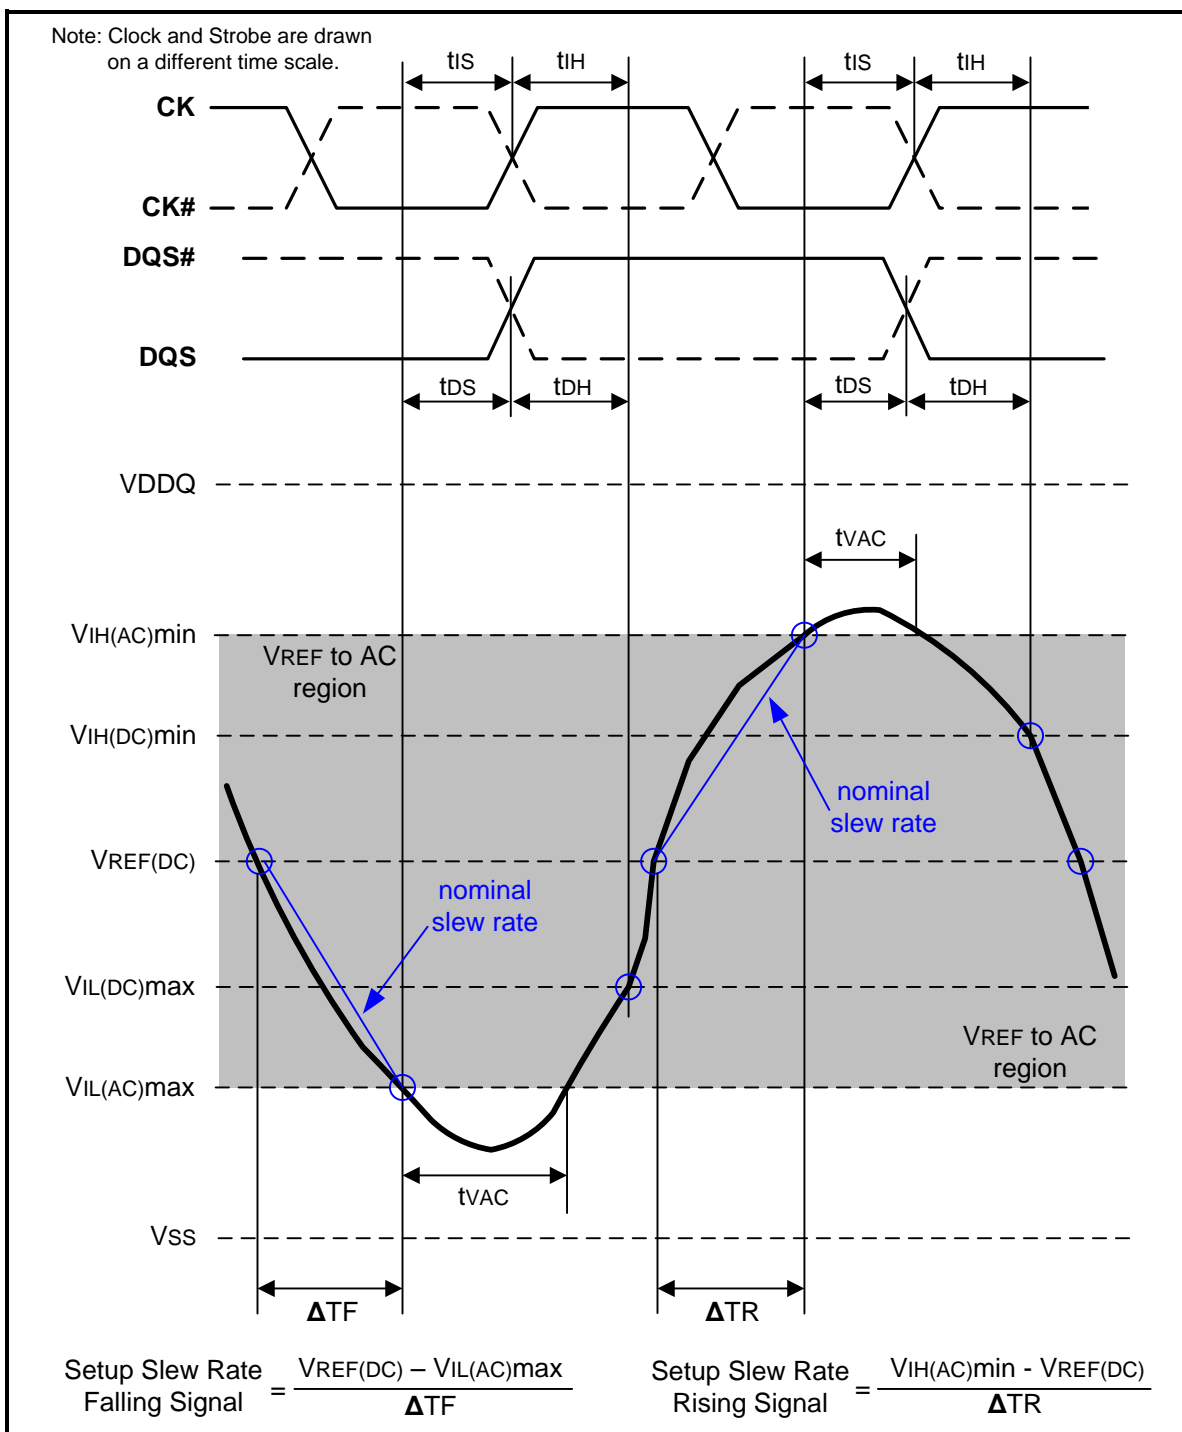
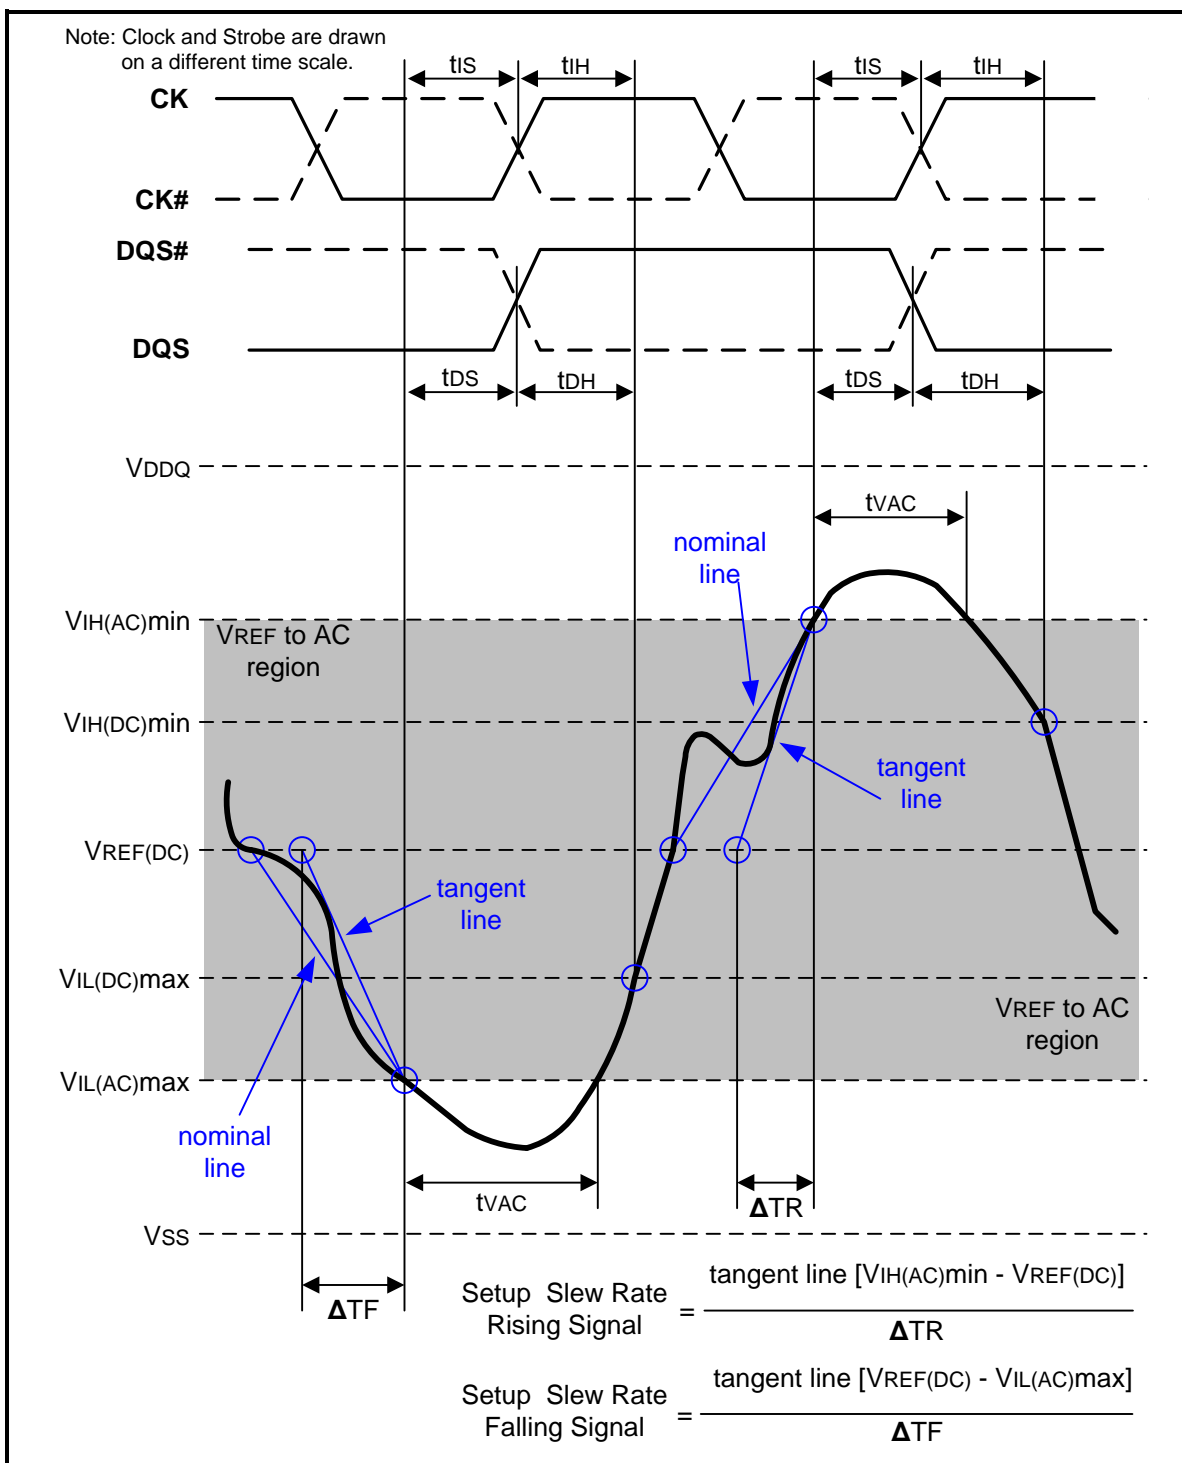

Figure 107 – Illustration of nominal slew rate and tvAC for setup time tDS (for DQ with respect to strobe) and tIS (for ADD/CMD with respect to clock)
Figure 109 – Illustration of tangent line for setup time t_{DS} (for DQ with respect to strobe) and t_{IS} (for ADD/CMD with respect to clock)
Setup (tIS) nominal slew rate for a rising signal is defined as the slew rate between the last crossing of VREF(DC) and the first crossing of VIH(AC)min. Setup (tIS) nominal slew rate for a falling signal is defined as the slew rate between the last crossing of VREF(DC) and the first crossing of VIL(AC)max. If the actual signal is always earlier than the nominal slew rate line between shaded 'VREF(DC) to AC region', use nominal slew rate for derating value (see Figure 107). If the actual signal is later than the nominal slew rate line anywhere between shaded 'VREF(DC) to AC region', the slew rate of a tangent line to the actual signal from the AC level to VREF(DC) level is used for derating value (see Figure 109).
Setup (tDS) nominal slew rate for a rising signal is defined as the slew rate between the last crossing of VREF(DC) and the first crossing of VIH(AC)min. Setup (tDS) nominal slew rate for a falling signal is defined as the slew rate between the last crossing of VREF(DC) and the first crossing of VIL(AC)max (see Figure 107). If the actual signal is always earlier than the nominal slew rate line between shaded 'VREF(DC) to AC region', use nominal slew rate for derating value. If the actual signal is later than the nominal slew rate line anywhere between shaded 'VREF(DC) to AC region', the slew rate of a tangent line to the actual signal from the AC level to VREF(DC) level is used for derating value (see Figure 109).